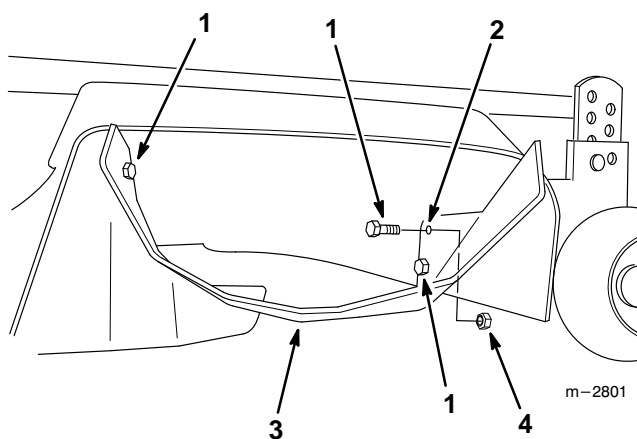

Figure 5
5. Hold the deflector against the back and top of mower discharge opening. Using the deflector as a guide, mark the remaining (2) front and rear deflector mounting holes in the mower (Fig. 5).
11. Complete fastening the deflector to the front and rear of mower with (2) 5/16"-18 x 3/4" (19 mm) bolts and locknuts (Fig. 5).